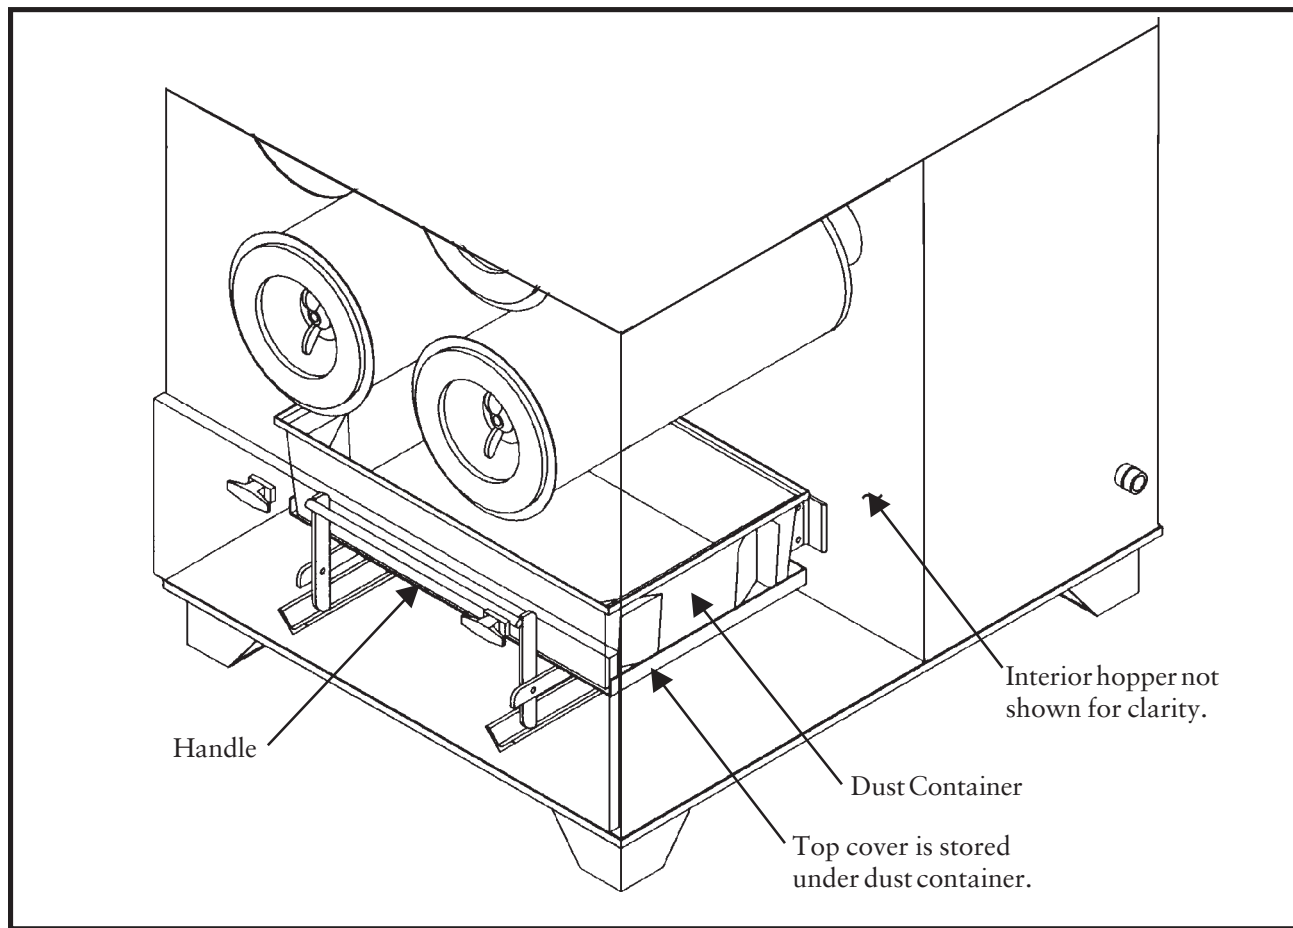

Figure 40
2. Reach inside the model SDF and grasp the handle on the dust container support system (see Figure 40 Dust Container Support System). Pull the handle down to loosen the dust container from the gasketed flange. Remove the dust container by grasping the hand holds on the sides and pulling the container forward. Lift the container and dispose of the contents into the proper receptacle.* Replace the dust container and seal it against the gasketed flange by pulling the handle on the dust container up and in. Close the hinged access door and turn the two latches clockwise to seal the door.